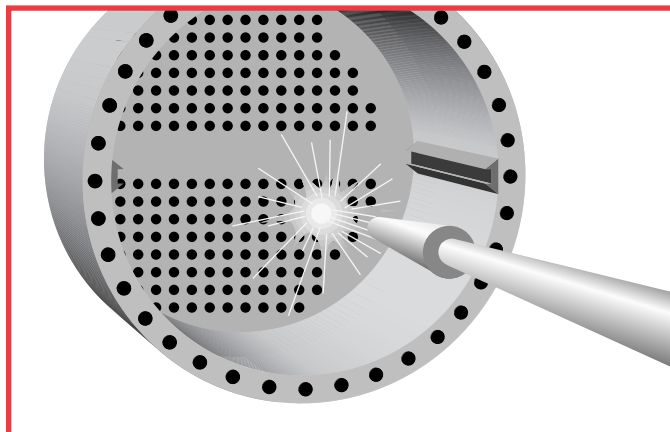

Figure 33. Sandblast the tube sheet once stoppers are installed.
2. **Surface preparation.** Once the stoppers are installed, abrasive blast the entire faceplate. After blasting, blow out the debris from the sheet using clean air. Degrease thoroughly with Loctite® ODC-Free Cleaner & Degreaser. For best results, steam clean the application surface after blasting and degreasing. Prepare the baffle plates and end covers as the tube sheet itself. (See figure 33)